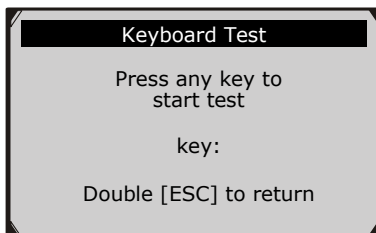

Figure 3.10
- 2) Press any key to start test. When you press a key, the key name should be observed on the display. If the key name does not show up, then the key is not functioning properly. (Figure 3.10)